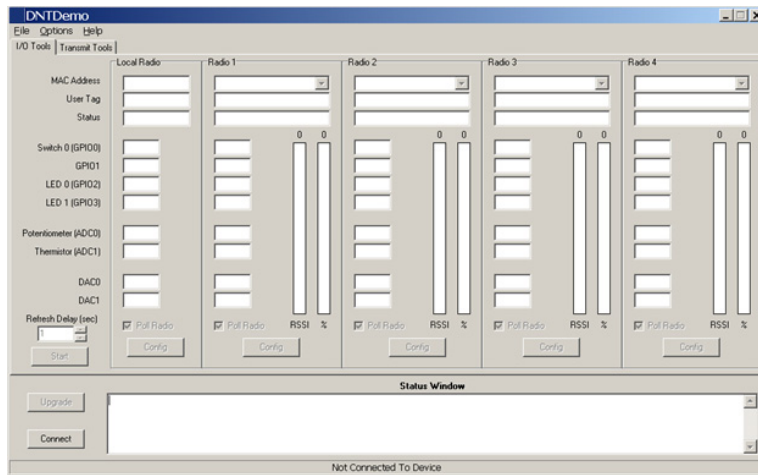

Figure 4
6. Start the Demo on the PC. The Demo program start-up window is shown in Figure 4.